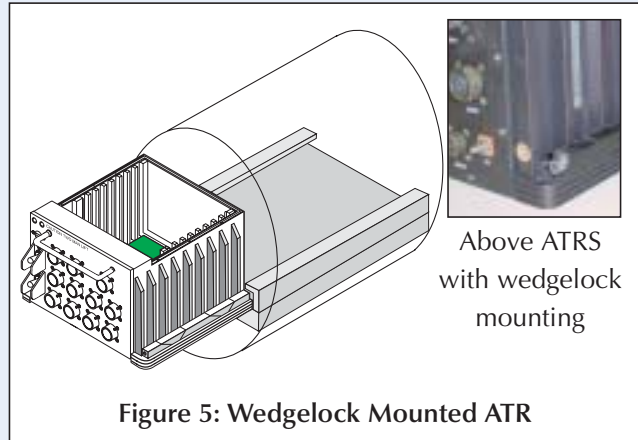

Figure 5: Wedgelock Mounted ATR
**Mounting Provisions.** Sometimes ARINC hold downs can not be used and alternatives have to be considered. For example consider a Baseplate-cooled 1ATRS mounted in a tube by means of expanding wedgelocks illustrated in figure 5.